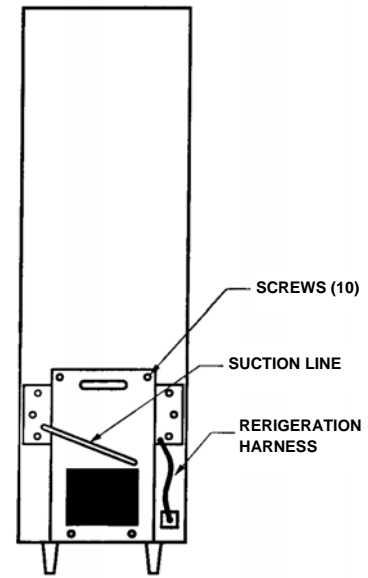

FIGURE 12. REFRIGERATION UNIT REMOVAL
3. Remove only the ten screws holding the refrigeration unit to the cabinet as shown in Figure 12.